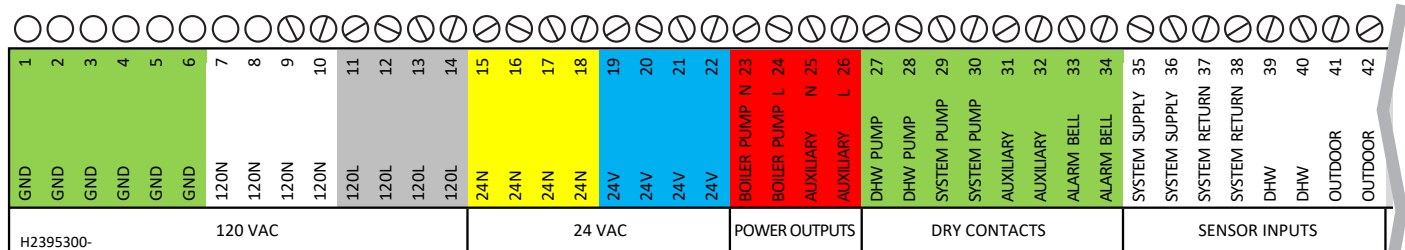

Figure 19. Field Connections Terminal Block
DHW Pump - if connecting a domestic hot water (DHW) pump, use terminals 21 and 22 (See Figure 19) as this is a dry contact, the DHW pump supply voltage or DHW pump relay coil voltage would be applied at terminal 21, and when the DHW pump is activated, would be available at terminal 22. Contact ratings are 250VAC, 1.5A maximum. DHW pump functionality is configured using the touch screen.
**System Supply** - if used, is connected to terminals 29 and 30 (See Figure 19 on page 36). When connected, the controller automatically detects the presence of this sensor and the temperature is shown on the home screen above the red system supply arrow. When installed, the unit controls the firing rate to maintain the system supply temperature to the heat demand set point.
TT1 - if a thermostat/aquastat or end switch (isolated contact only) is used as a heat demand, connect to terminals 37 and 38 (See Figure 19 on page 36). TT1 functionality is configured on the touch screen on the CH1/DHW1 screens.
BMS – if an analog input (0-10VDC or 4-20mA) from a BMS is used as a remote set point or remote firing rate command, wire to terminals 43 and 44 (See Figure 19 on page 36). Polarity is shown on the terminal label. Selecting voltage or current input is accomplished through jumper placement on the control board. Analog BMS functionality is configured using the touch screen.
Run - when used, is connected to terminals 51 (common), 52 (normally closed), and 53 (normally open) (See Figure 19 on page 36). The controller closes the normally open set of contacts whenever the unit is running. Contact ratings are 250VAC, 0.6A maximum.
Cascade - Prior to wiring units for cascade operations, select one unit as the lead boiler/heater. Other units connected to the lead boiler/heater will be referred to as lag units. Communication between lead and lag units is accomplished using RS485. When wiring these units for cascade operations, use terminals 57, 58, and 59 (See Figure 19 on page 36). Use 2-wire twisted pair, shielded w/drain (communication cable) between units. Connect one wire of the communication cable to A (-), terminal 58, and the other wire to terminal B (+), terminal 57, and the drain wire to GND, terminal 59. Connect the other end of the cable to the next unit, matching the termination wiring on the previous unit, except for GND. Only connect the drain wire to ground on one end of the cable to avoid ground loop issues. If more than two units are cascaded together, daisy chain the wiring from unit to unit, keeping the cables as short as possible. A system supply sensor must be installed and connected to the lead boiler. The lead boiler will use this system supply sensor as the temperature control sensor for cascade operations. TT1 terminals are used to initiate a heat demand at the lead boiler.
BMS – if communicating to the unit via RS485 serial communications, either Modbus or BACnet MSTP, connect to terminals 60, 61, and 62 (See Figure 19 on page 36). Use 2-wire twisted pair, shielded w/drain (communication cable) between units. Connect one wire of the communication cable to A (-), terminal 61, and the other wire to terminal B (+), terminal 60, and the drain wire to GND, terminal 62.